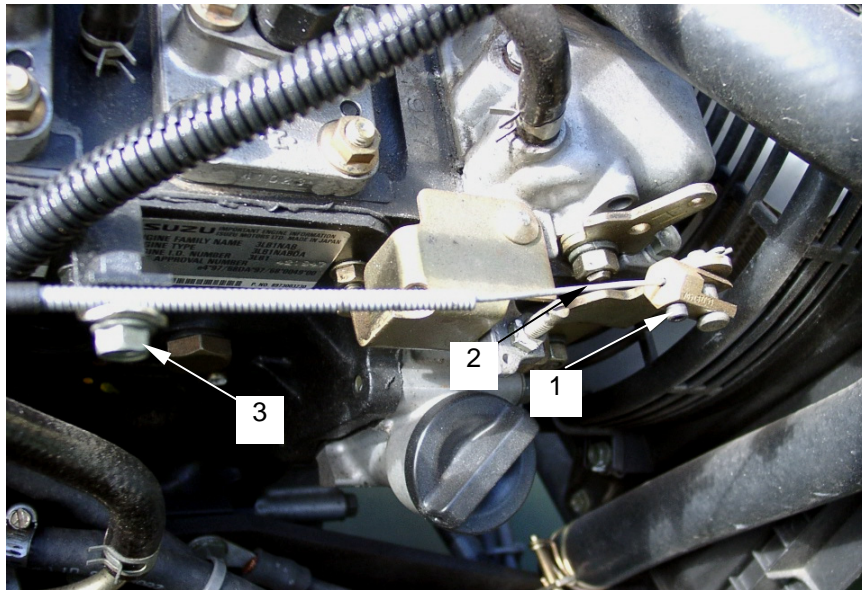

Figure 44. Throttle Cable to Engine
- a. Loosen and remove cap screw (**figure 44, item 1**) securing throttle cable (**figure 44, item 2**) to engine.
- b. Loosen throttle cable housing clamp (**figure 44, item 3**).
- h. Install cable housing in cable clamp (**figure 44, item 3**).
- i. Connect throttle cable (**figure 44, item 2**) to engine. Ensure slack is removed.
- j. Tighten cap screw (**figure 44, item 1**).
- k. Tighten throttle cable housing clamp (**figure 44, item 3**).